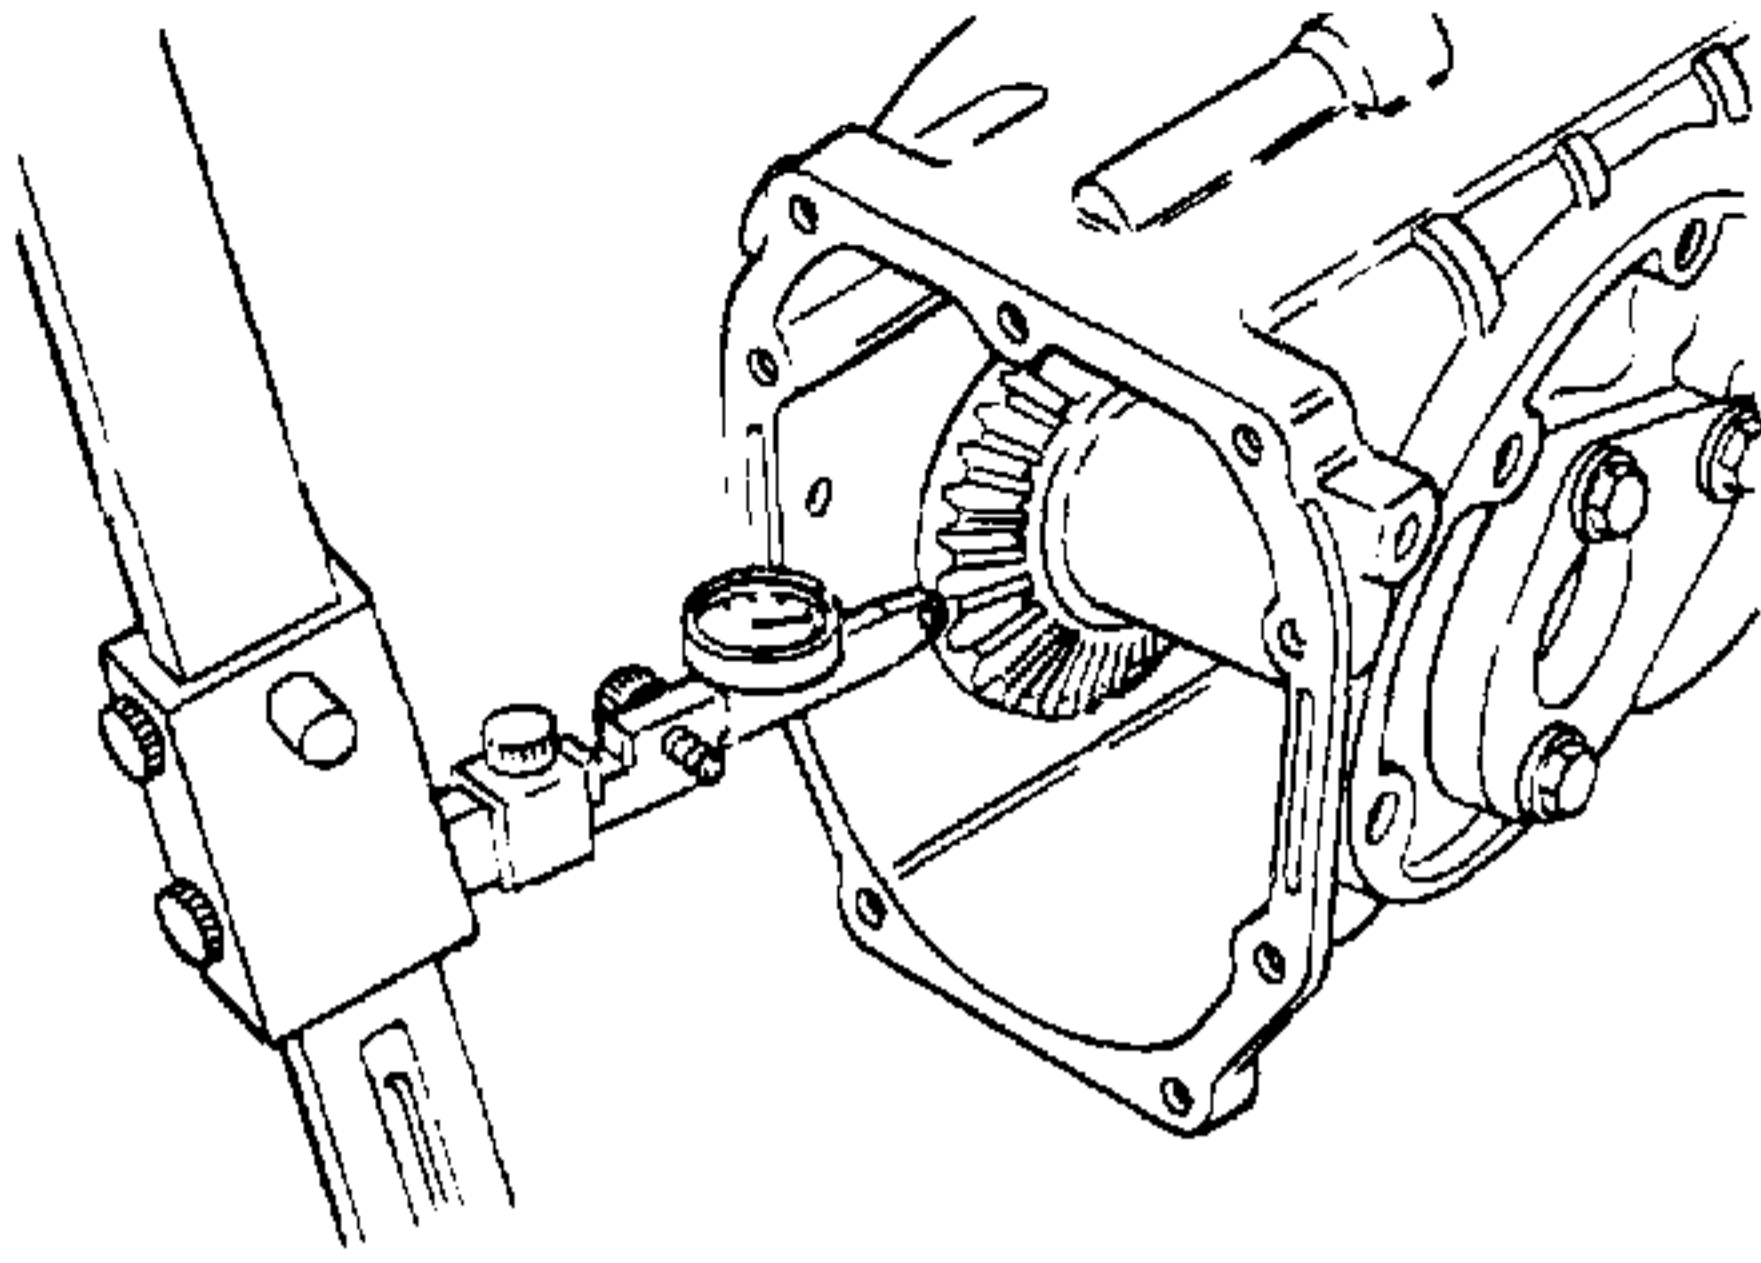

Figure 5-78C. Measuring Ring Gear to Piston Backlash.
- b. Ring gear to pinion backlash – .003 to .008 inch. Refer to Figure 5-78C.